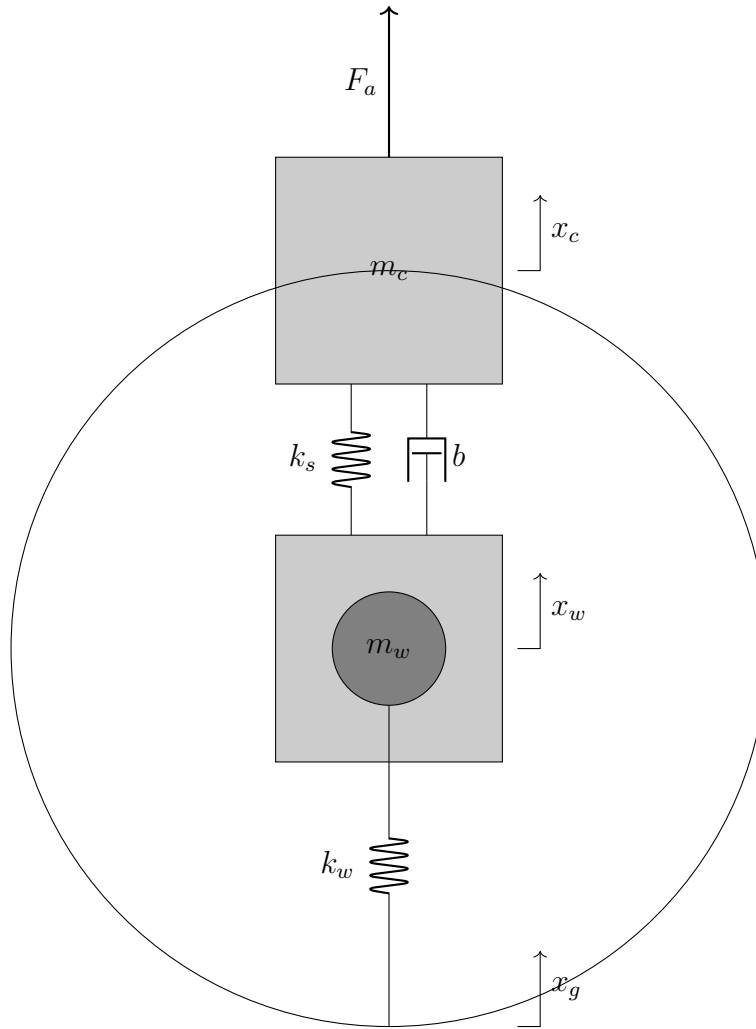

Figure 1: Quarter car model of suspension system.
1. A simplified car suspension model can be created from the assumption that all four wheels operate independently. Each wheel is associated with the quarter weight of the car body, a spring, a shock absorber, wheel mass, and an equivalent spring (compliance or stiffness) of the tire. To simplify the analysis of the car suspension we consider only one wheel and assume that this supports a quarter of the car body. The quarter car model of the simplified car suspension is shown in Figure 1. It is based on two masses, the mass of the wheel and the mass of a quarter of the car chassis. In Figure 1 the variables are defined as: